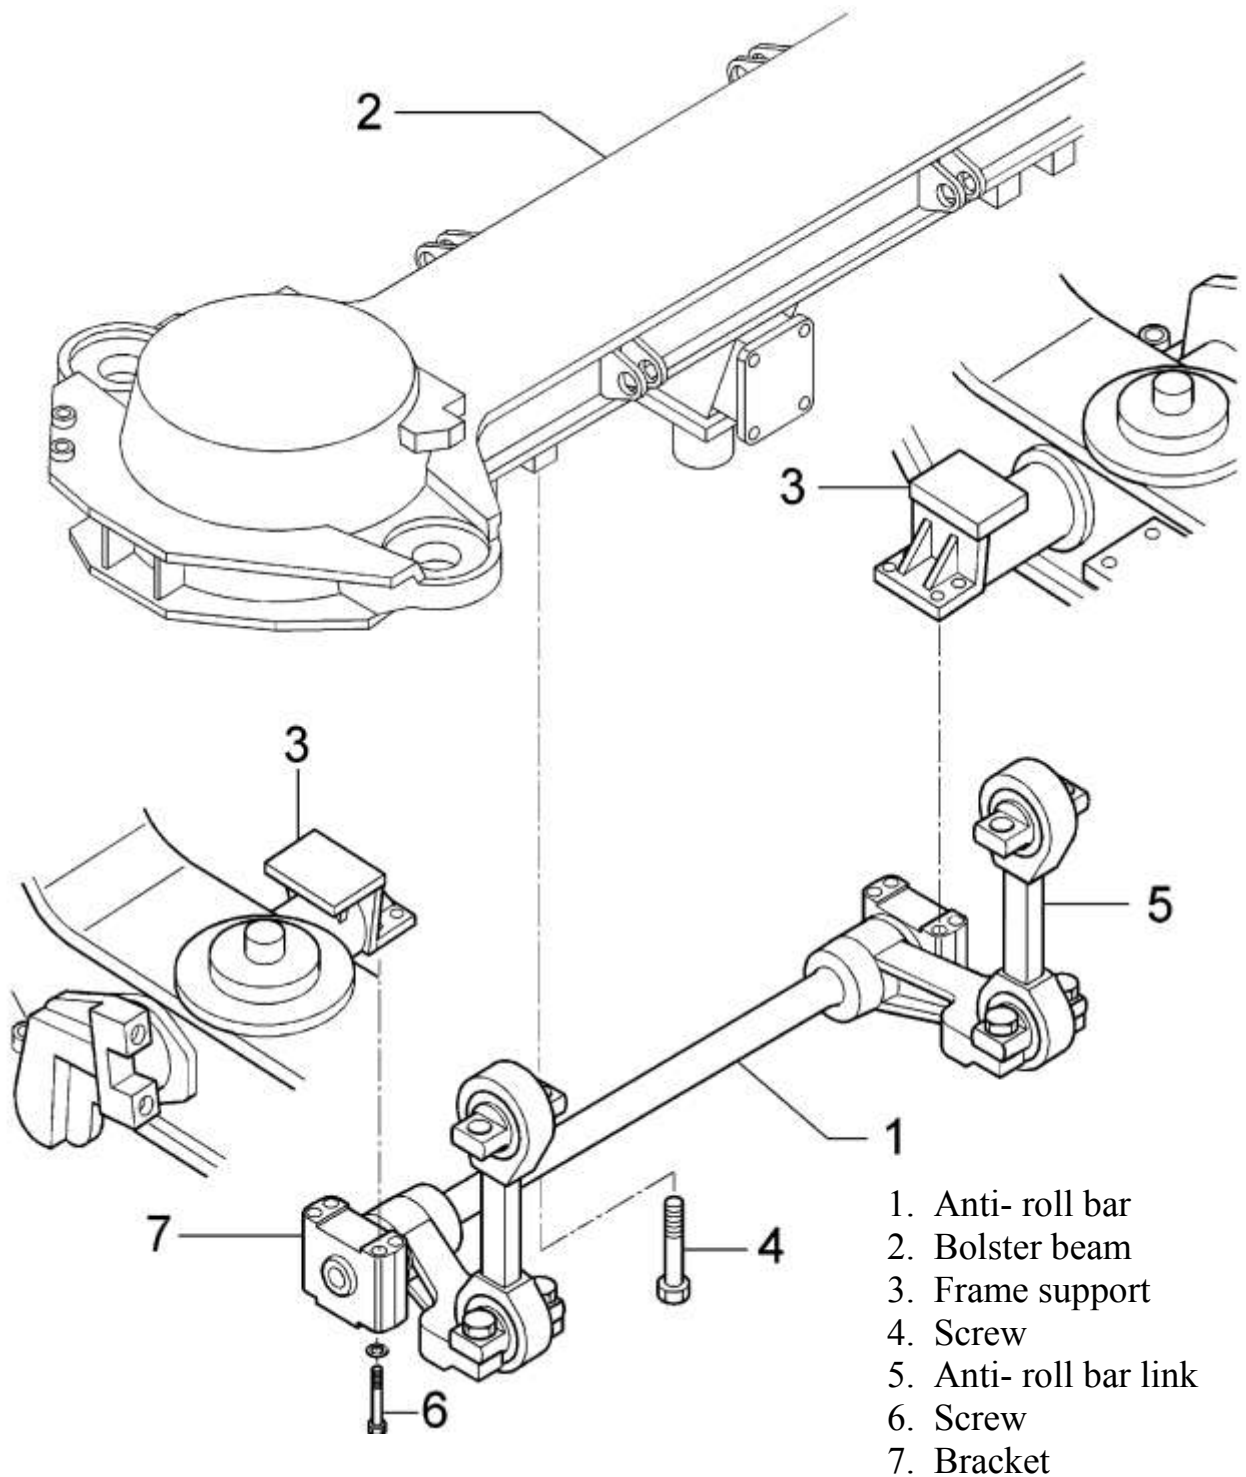

FIG. 4.24 Removal of the Anti-Roll Bar
The anti-roll bar (1 - FIG. 4.24) must be disconnected both from the bolster beam (2) and from the frame supports (3) in order to allow removal. Extract the screws (4) which link the anti-roll bar links (5) to the bolster beam, then extract those (6) fixing the brackets (7) to the frame supports (3). It is then possible to remove the complete anti-roll bar (1).